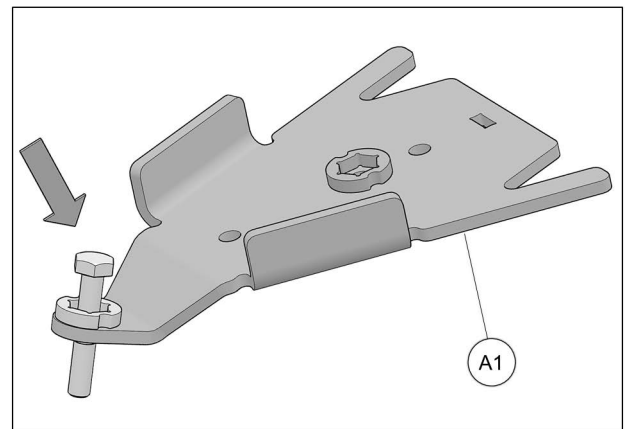

Fig. 18
8. Insert bolt in front anchor brackets (A1) as shown in Fig. 18